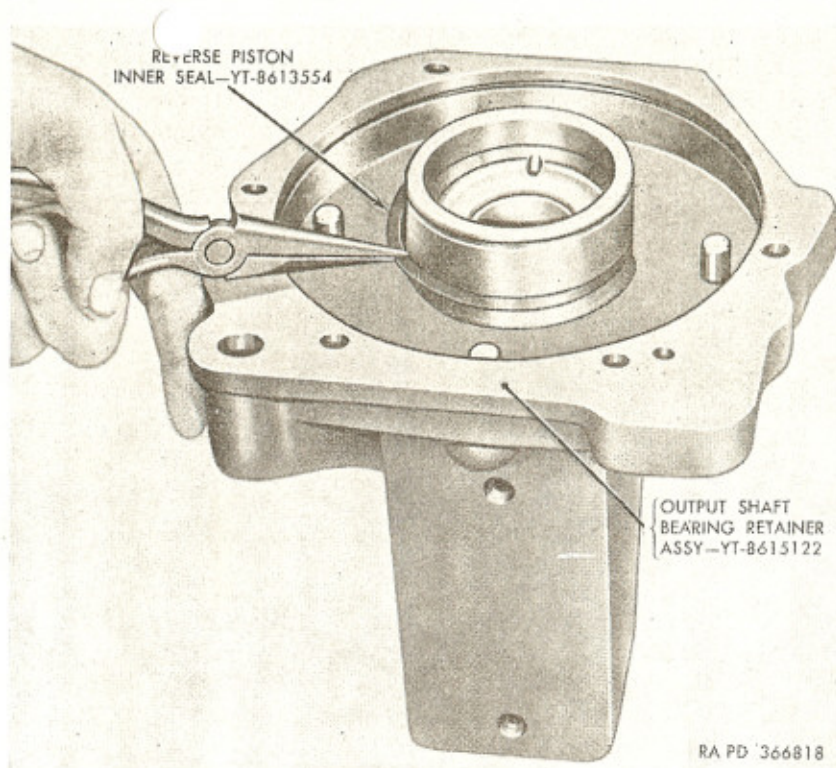
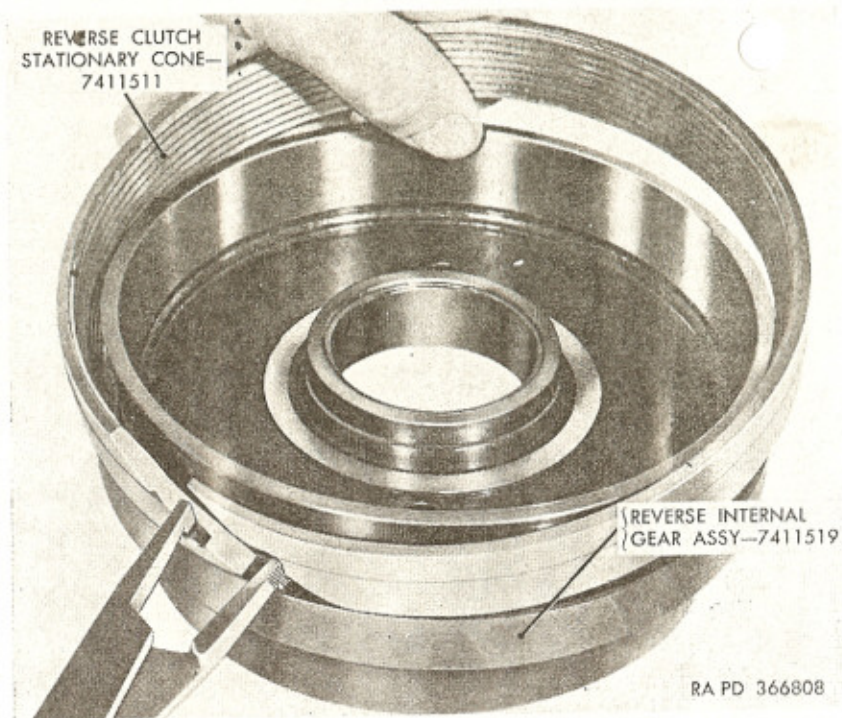

Figure 134. Removing reverse piston inner seal.
Figure 135. Removing or installing reverse clutch stationary cone.
l. Remove reverse piston outer seal (Y) from groove in reverse clutch piston (W). Discard seal.
m. Remove reverse piston inner seal (X) from groove in output shaft bearing retainer (AA) (fig. 134). Discard seal.
n. Remove bronze thrust washer (S) from reverse internal gear assembly (P).
o. With reverse internal gear assembly (P) positioned on bench (fig. 135), use snap ring pliers to expand reverse clutch stationary cone (R) and remove cone from gear assembly. Do not expand cone more than necessary to remove from gear.
Note. On some units, reverse clutch stationary cone (R) will require less expansion if removed from forward side of reverse internal gear instead of from rear side as shown in figure 135.
p. Remove snap ring (J) securing reverse planet carrier assembly (N) on output shaft assembly (C), using snap ring pliers. Keep snap ring well spread to prevent damaging output shaft splines during removal. Lift reverse planet carrier assembly (N) off output shaft assembly (C). Remove reverse planet
e. With reverse internal gear assembly (P) positioned on bench as shown in figure 135, use snap ring pliers to expand reverse clutch stationary cone (R) and install cone on gear. Do not expand cone more than necessary to make the installation.
Note. On some units, reverse clutch stationary cone (R) will require less expansion if installed over forward side of reverse internal gear (fig. 135) instead of from rear side.
g. Install new reverse piston inner seal (X) in groove in hub of output shaft bearing retainer (AA), with seal lip pointing toward bottom of reverse clutch piston bore in retainer. Refer to figure 134 for location of seal in retainer.
h. Install new reverse piston outer seal (Y) in groove in outer edge of reverse clutch piston (W), with seal lip pointing toward guide pin hole side of piston.
a. Pull input shaft (A) from output shaft assembly (C).
b. Remove bronze thrust washer (B) from counterbore of output shaft assembly.
c. Remove reverse internal gear assembly (M) and reverse clutch stationary cone (N).
d. Remove reverse clutch stationary cone key (P). With snap ring pliers, expand cone; then carefully remove reverse clutch stationary cone (fig. 135) from reverse internal gear.